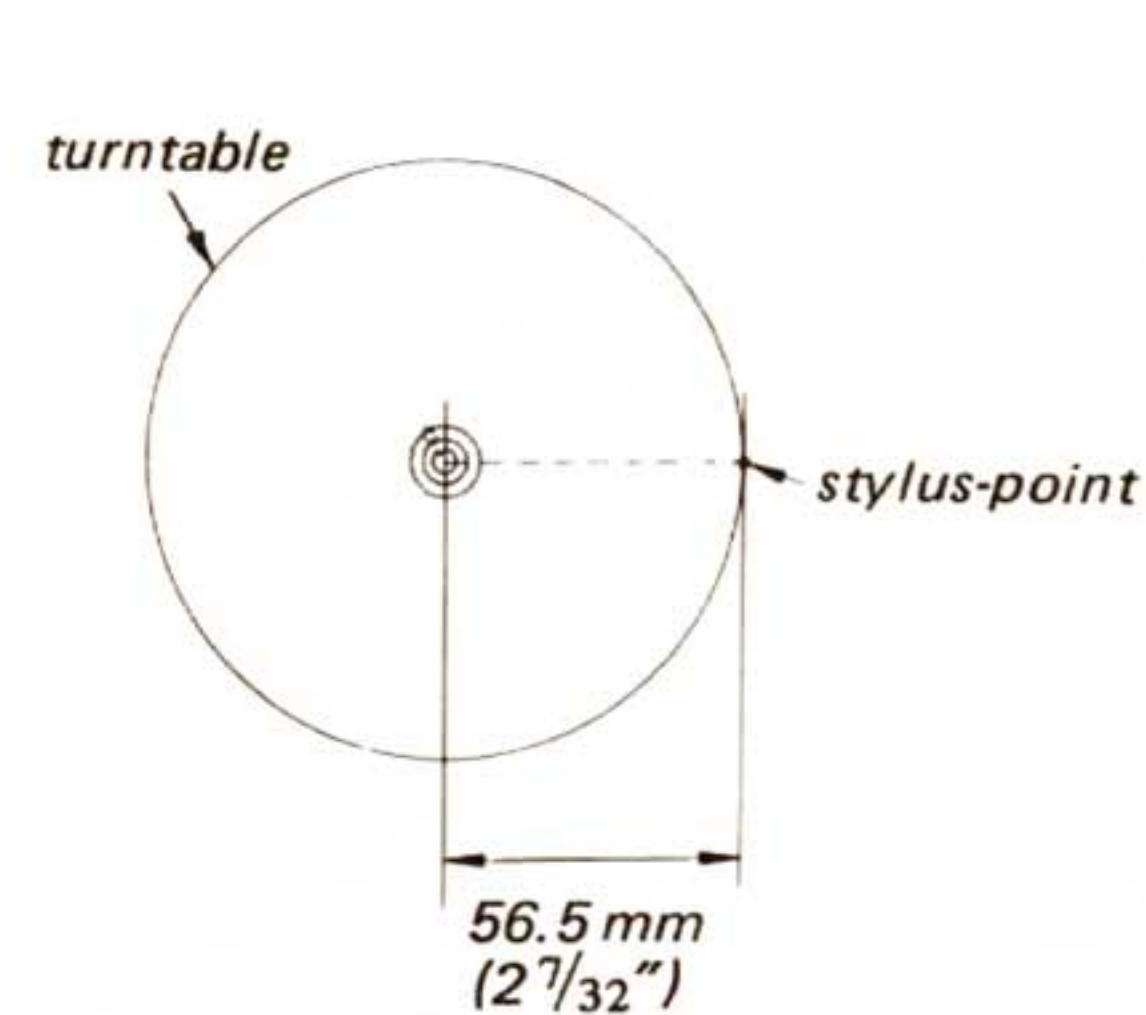

Fig. 3-5
4. Set the position of the stylus as shown in Fig. 3-5 and turn the adjustment screw so that the VOM reads 4.4V dc.